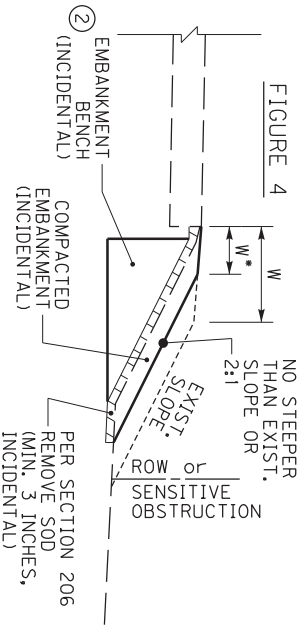

FIGURE 4
6. AS SHOWN IN FIGURE 4, IF MATCHING THE EXISTING FILL SLOPE OR INSTALLING A 2:1 FILL SLOPE (WHICHEVER IS FLATTER) STILL RESULTS IN THE TOE OF SLOPE EXTENDING BEYOND THE RIGHT-OF-WAY OR STILL IMPACTS A SENSITIVE OBSTRUCTION, THEN THE PROPOSED EARTH SHOULDER WIDTH MAY BE REDUCED SO THAT THE RESULTING TOE OF SLOPE WILL REMAIN WITHIN THE RIGHT-OF-WAY AND/OR NOT IMPACT THE SENSITIVE OBSTRUCTION.